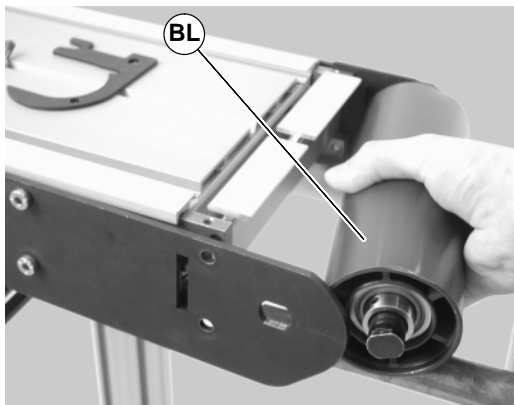

Figure 55
- Slide the idler pulley assembly (BL of Figure 55) out of the headplate on the opposite side.